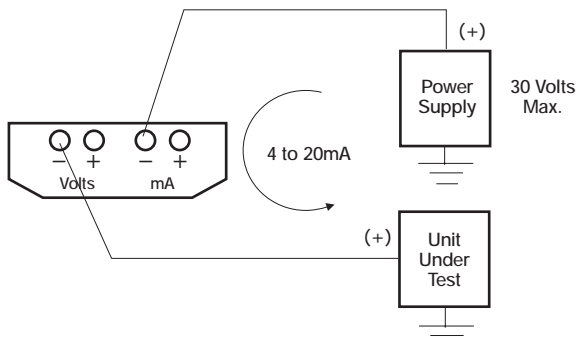

Figure 3
3. Current loop devices that derive their power supply from an external power supply can be calibrated as shown in Figure 3.